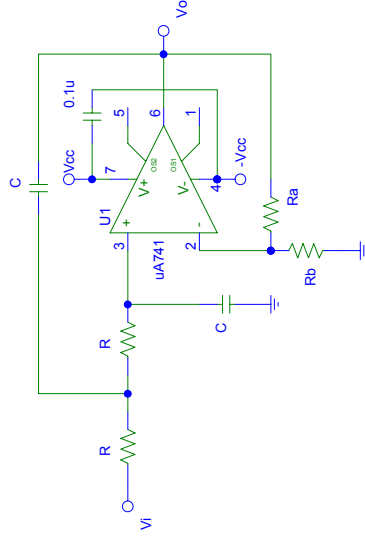

Fig. 3 Active LPF.
3. Consider the circuit of the active lowpass filter shown in Fig. 3:
4. Assemble the active LPF shown in Fig. 3 with the component values you computed in Prelab part 3.